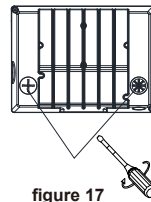

figure 17
2. After adjusting the required control function, tighten the metal plug and the plastic plug clockwise.(figure 17)